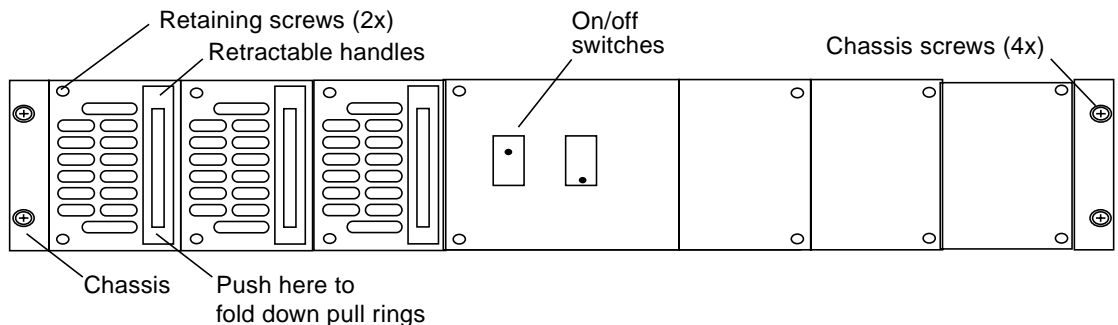

FIGURE 6-21 HDSA Power Supply Module
Just below the High Density Storage Array (HDSA) drawers are the HDSA power supply modules in the power supply module chassis. See FIGURE 6-21. Before you begin, open the front door.
1. Using 1/8-inch flat blade screwdriver, loosen the two retaining screws on the left side of the module. The screws are not removable. See FIGURE 6-21.
1. **At the front cabinet door, remove the four power supply module chassis screws shown in FIGURE 6-21.**